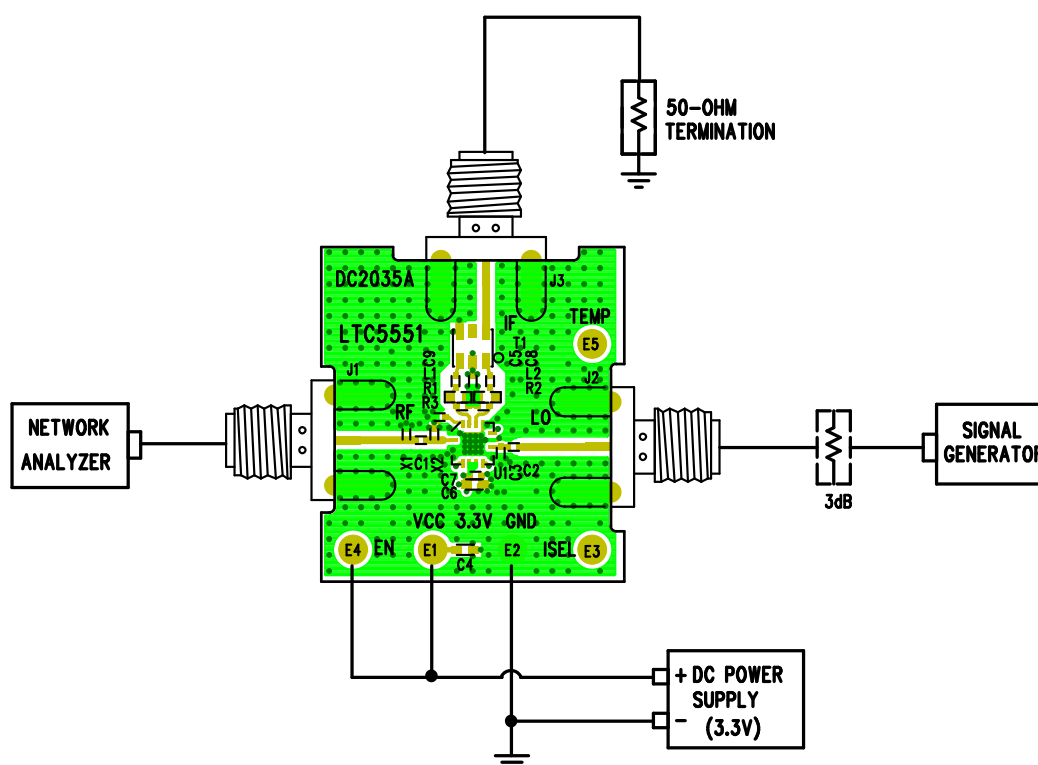

Figure 1. Proper Equipment Setup for Return Loss Measurements
Demonstration circuit 2035A is easy to set up to evaluate the performance of the LTC5551. Refer to Figures 1 to 3 for proper equipment connections and follow the procedures below:
3. Connect all test equipment as shown in Figure 1 with the signal generator and the DC power supply turned off.